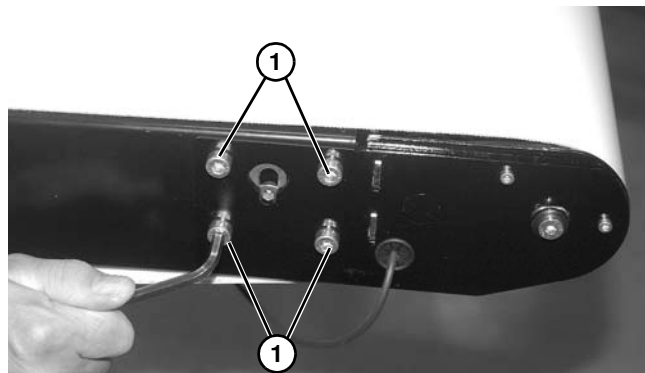

Figure 69
6. On drive end of conveyor, loosen the four screws (**Figure 69, item 1**) on each side of conveyor.